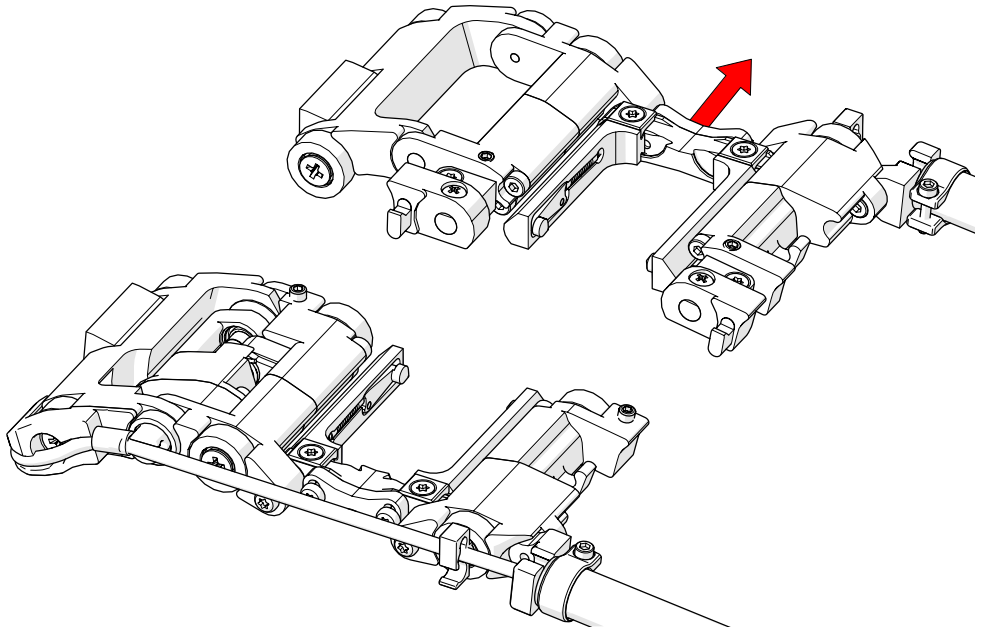

Fig. 50 - Separate scanner
2. Separate the two scanner sections (Fig. 50).